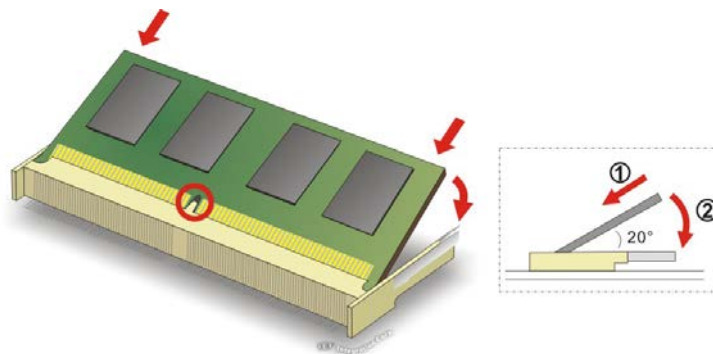

Figure 5-2: SO-DIMM Installation
- Step 7:** Install the new DDR4 memory module by pushing it into the socket at a 20° angle (Figure 5-2).
- Step 8:** Gently push the memory module downwards and the arms clip into place (Figure 5-2).